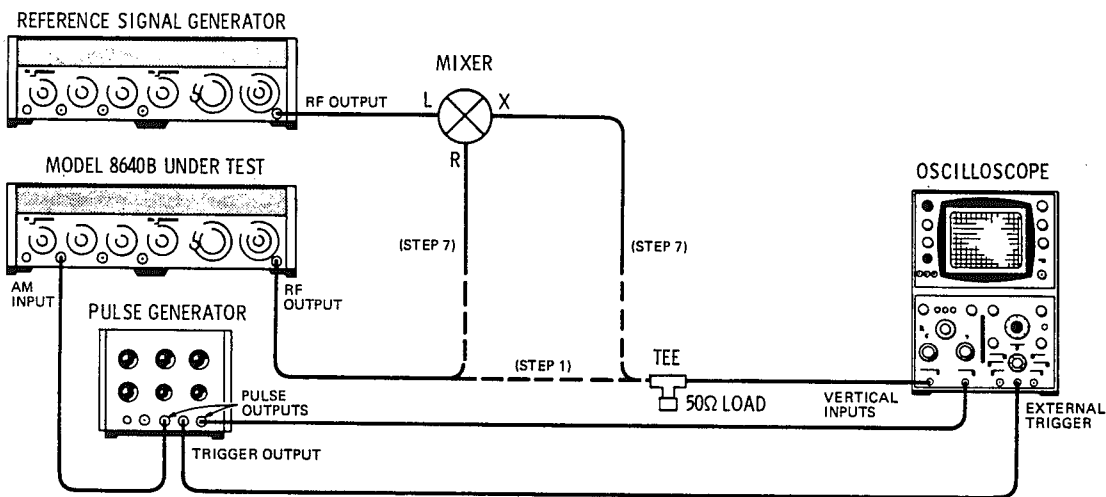

Figure 4-22. Pulse Modulation Test Setup
1. Connect equipment as shown in Figure 4-22, with oscilloscope connected directly to test generator's RF OUTPUT, after setting test Signal Generator's controls as follows: